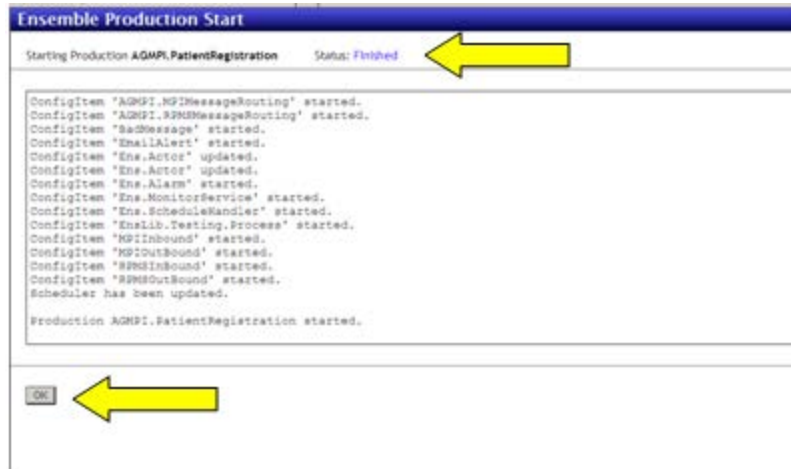

Figure 4-5: Ensemble Production Start page
**Note:** Detailed instructions for configuring a production using the configuration diagrams are found in the *Patient Registration MPI Interface/Ensemble (AG) Installation Guide and Release Notes*.
2. In the confirmation dialog box, click **Yes** to display the **Ensemble Production Start** page, as shown in Figure 4-5, including the name of the production, its startup status, and any messages associated with production startup.